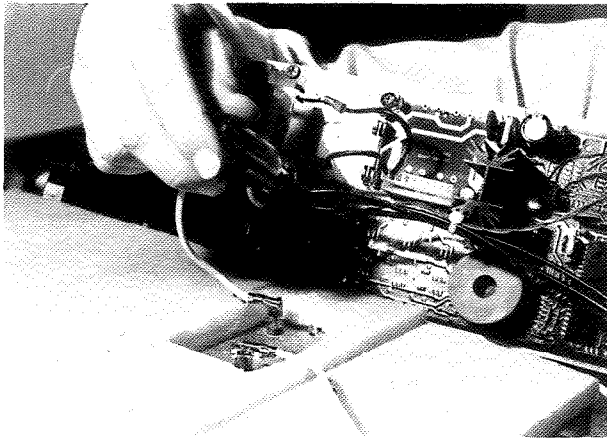

Figure 13
4. Remove the 2 screws that hold the relay to the cabinet. (See Figure 13)